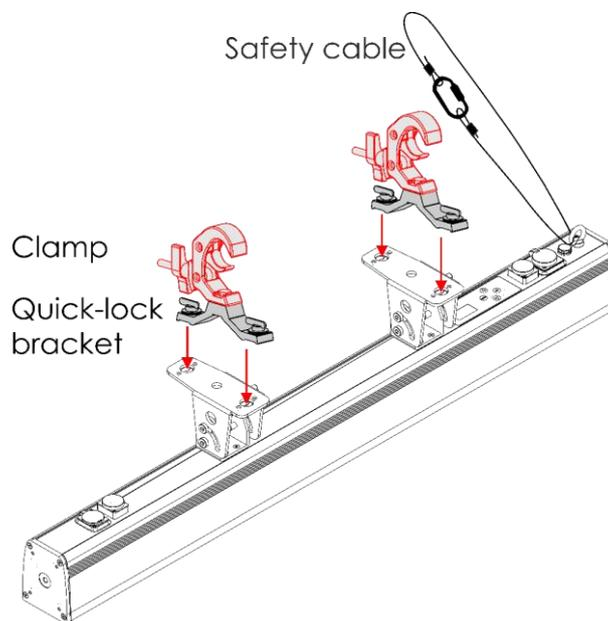

Fig. 05
- 01) Use a clamp to attach the device to the supporting structure, as shown in Fig. 05. Make sure that the device cannot move freely. The use of a quick lock bracket is optional.
- 02) Secure the device with a secondary suspension, for example a safety cable. Make sure that the secondary suspension can hold 10 times the weight of the device. If possible, the secondary suspension should be attached to a supporting structure independent of the primary suspension. Put the safety cable through the **safety eye (10)**, as shown in Fig. 05.